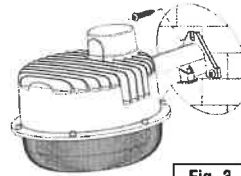

Fig. 3
4. Hook the fixture onto the two inserted screws, then insert and tighten the top screw, as shown in **Fig. 3**. Finally, tighten the two lower-most screws.